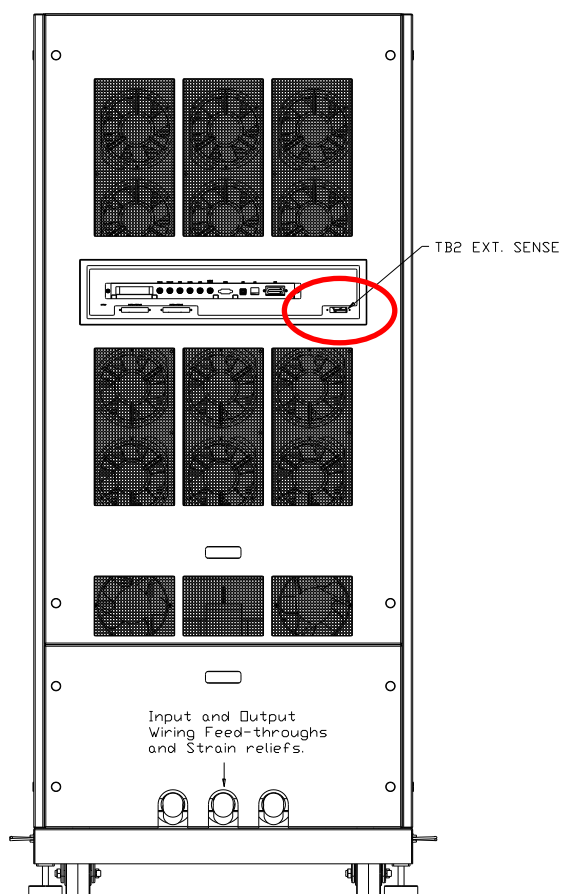
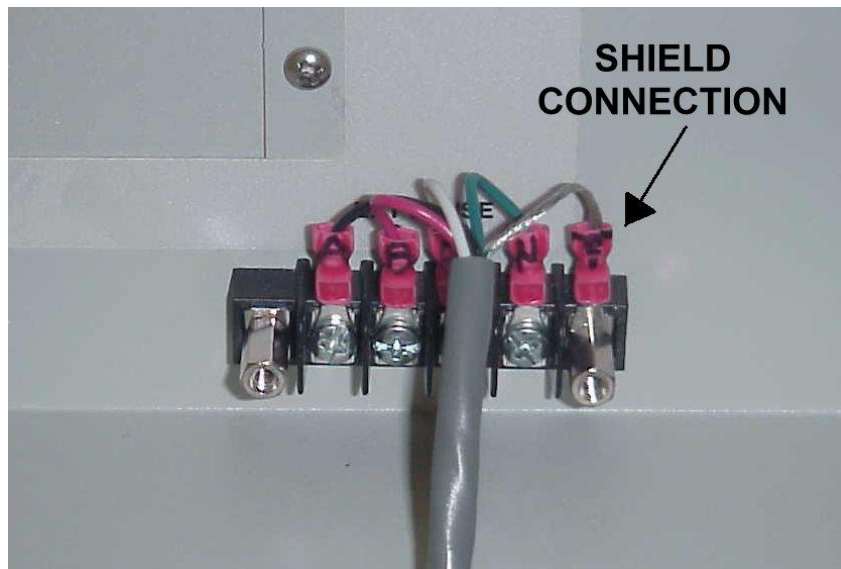

Figure 3-4: Rear Panel – External Sense connector location.
Figure 3-5: External sense cable shield connection to chassis ground
No wiring for AC input connections is provided with the RS Series and must be provided by the end user or installer. Input wiring should be entered through the right hand side (when facing the back of the RS cabinet, see Figure 3-4) wire access opening located at the rear bottom of the RS chassis. A wire channel (marked as [2] in figure below) is provided below the input transformer to allow the input wiring to be routed to the front of the unit where the connections are to be made.
The external sense inputs allow the power system output voltages to be monitored directly at the load and must be connected at TB2 when the sense is programmed for external. The external sense input does not have to be connected when Internal Sense is programmed. The external sense wires are to be connected to TB2 on the rear panel and should be run using a twisted shielded cable. See Figure 3-4 for location of TB2 and Figure 3-5 for shield connection detail.
**Note:** *For External Sense connection, a shielded cable MUST be used with the shield connected to chassis ground at the Ext. Sense connector. (See Figure 3-5).*